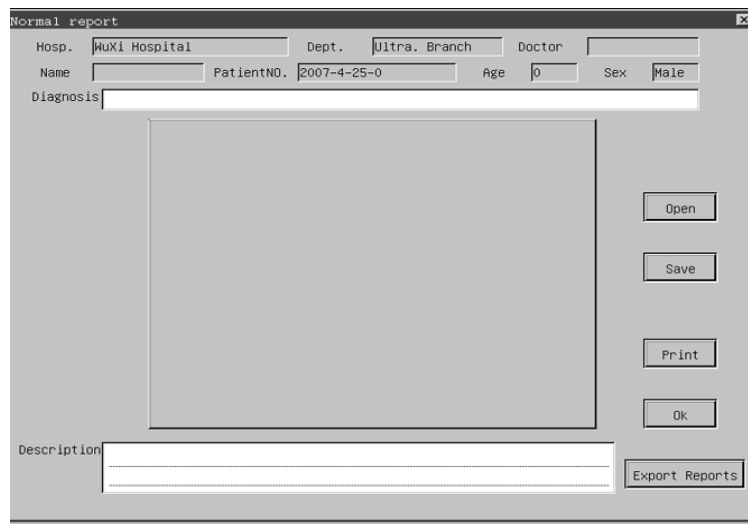

Fig. 14-2 Normal examination report interface
1. There is one frame for image input in the center of the report page(see above Fig.14-2 ), press **【SET】** key on the frame to select it,